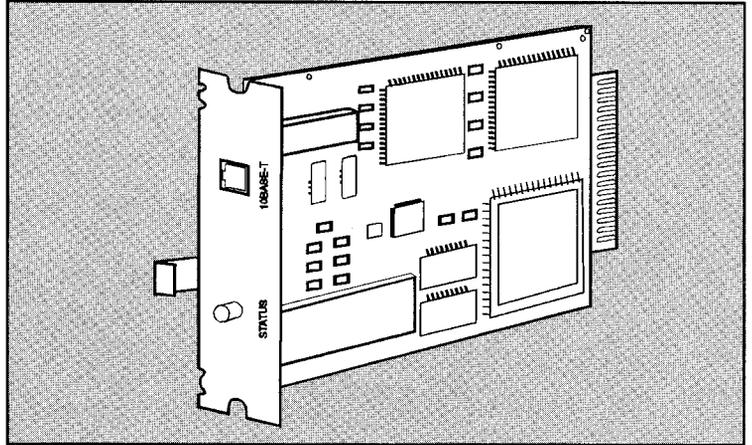

Figure 3-9. Identifying the 10BASE-T Adapter Card
1. Locate the adapter card. The part number for the 10BASE-T adapter card for Novell networks is C2071B. Refer to Figure 3-9.